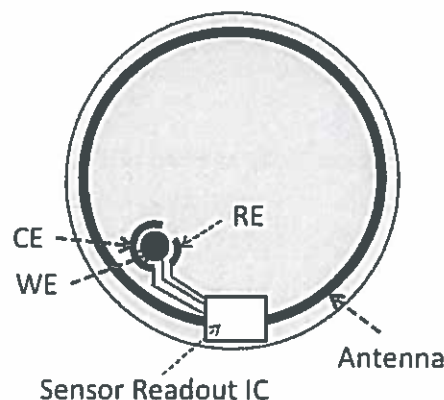

Figure 3.1
3. Figure 3.1 shows a smart contact-lens system for non-invasive measurement of tear glucose. The glucose concentration in the tear fluid is within 0.1-0.6mM for a healthy person and may go up to 1mM in patients with diabetes. The Glucose sensor comprises a working electrode (WE) with an area of 1mm², a reference electrode (RE) (area:0.3mm²) and a counter electrode (CE) (area:2mm²). The sensor readout IC receives AC power from the antenna and sends the measured data back to the transmitter. The instrumentation operates on a single supply with a VDD of 1.8V.